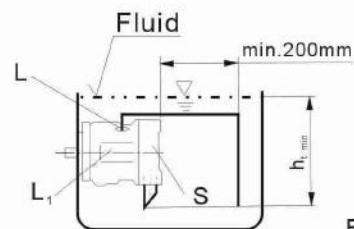

Fig.3
- a) If the minimum fluid level is above the top of the pump, port "L₁" closed, "L" and "S" should remain open, L piped and recommendation S piped (see Fig.3)